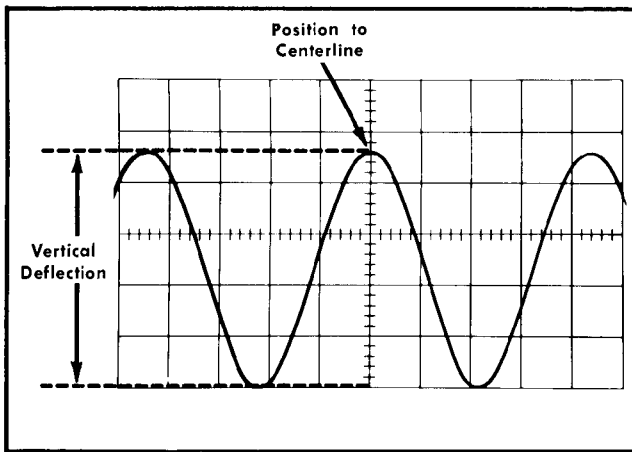

Fig. 2-5. Measuring peak-to-peak voltage of a waveform.
6. Turn the POSITION control so the lower portion of the waveform coincides with one of the graticule lines below the centerline, and the top of the waveform is within the viewing area. Move the display with the time-base position control so one of the upper peaks lies near the vertical centerline (see Fig. 2-5).
Example. Assume a peak-to-peak vertical deflection of 4.6 divisions (see Fig. 2-5) using a 10 $\times$  attenuator probe and a VOLTS/CM switch setting of .5.